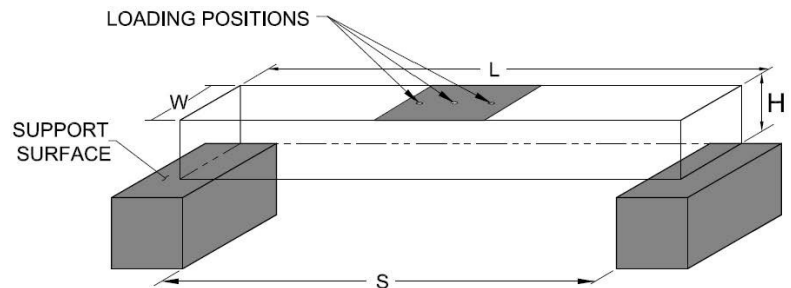

Figure 1
- b. The bridge must span a gap (**S**) of 300-mm (**hint: bridge must be longer than 300-mm**), be no longer (**L**) than 400-mm, be no shorter (**H**) than 50-mm and no taller than 80-mm above the support surface, and be no wider (**W**) than 60-mm and not less than 30-mm. No part of the bridge may extend below the support surface (see Figure 1).
- c. The bridge must be constructed to include a horizontal loading plane that provides support for three possible loading positions along the longitudinal axis of the bridge. The three loading positions are located at the center of the bridge, and 50-mm to either side of the center of the bridge. (**see Figure 1**). **NOTE: Load will be applied at the center of one loading position as described in section 4b.**
- d. The loading plane shall be horizontal and shall lie on the physical top of the bridge between 50-mm and 80-mm above the support surfaces (**Hint: top of the bridge must be taller than 50-mm but not exceed 80-mm in total height**) (see Figure 1).